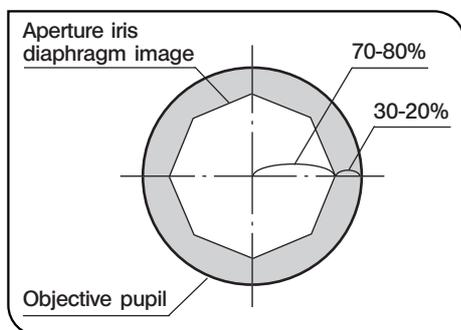
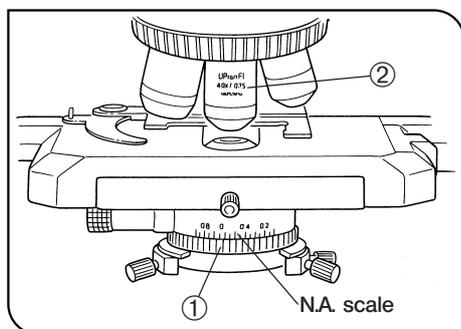

Fig. 31
Fig. 32
Aperture Iris Diaphragm (Figs. 31 & 32)
- Since the contrast of microscope specimens is ordinarily low, setting the condenser aperture iris diaphragm to between 70 and 80% of the N.A. ② of the objective in use is usually recommended. Adjust the ratio by removing the eyepiece and looking into the eyepiece sleeve while adjusting the aperture iris diaphragm ring ① until the image shown in Fig. 31 is seen.
② Using the numerical aperture scale:
You can use the condenser numerical aperture scale by adjusting the aperture iris diaphragm ring ①. (Fig. 32)